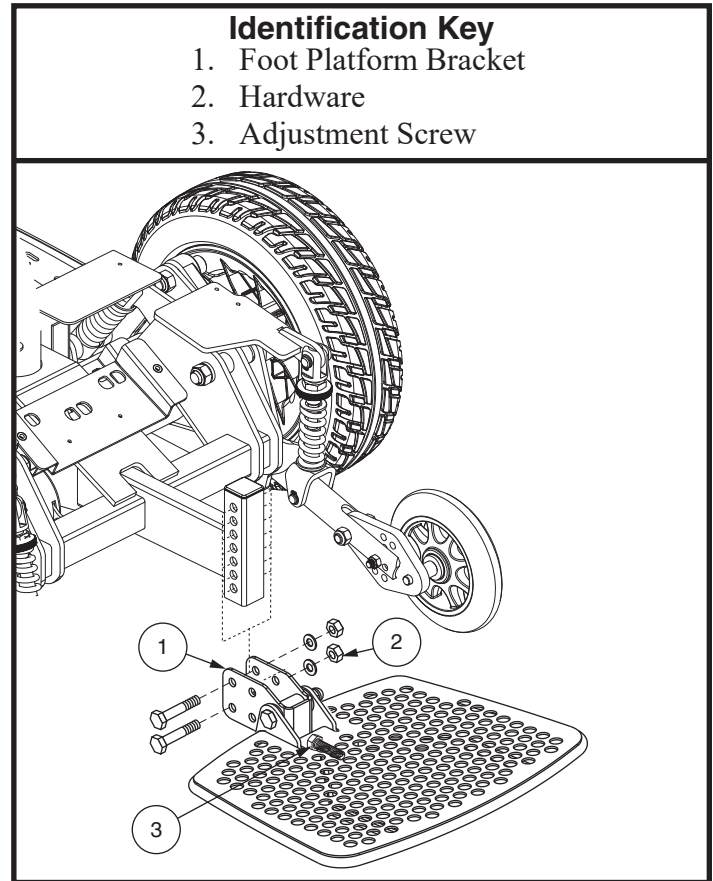

Figure 16. Select Foot Platform Adjustment
1. Remove the hardware from the foot platform bracket. See figure 16 or 17.
You can adjust the angle of the foot platform. See figure 16 or 17.